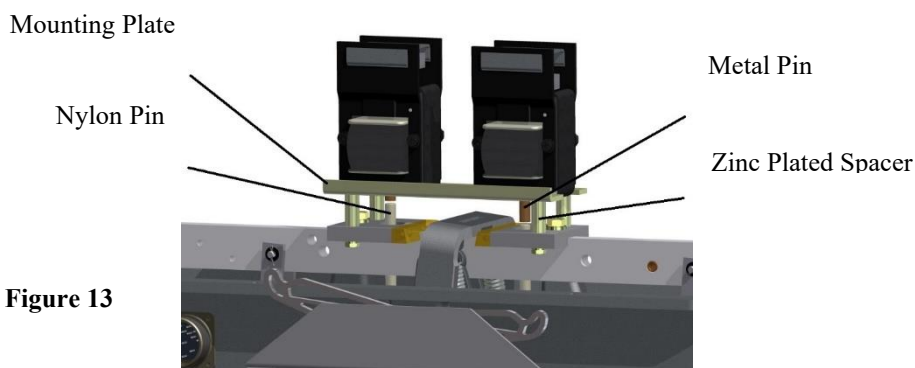

Figure 13
1. Place the switch in the closed position and measure pin gap for the opening solenoid by sliding thickness gauges between the nylon and metal pins as shown in Figure 13.